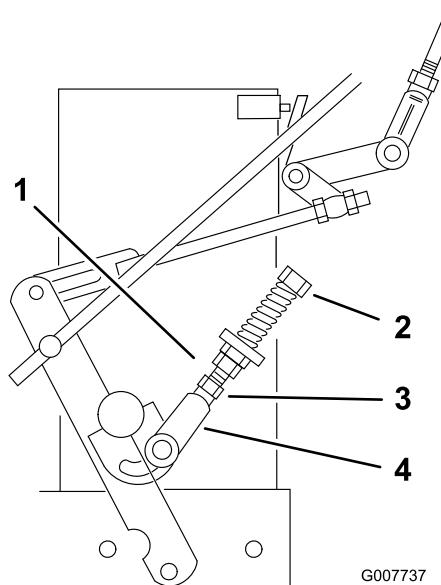

Figure 34
9. If the wheel turns while holding the drive lever in the NEUTRAL, the neutral control linkages need adjustment (Figure 34). If the wheel stops then go to step 12.
10. Loosen the nut against the neutral control linkage yoke (Figure 34).
11. Adjust the neutral control linkage until the respective drive wheel stops while the drive lever is pulled against the neutral spring (NEUTRAL position) (Figure 34).
12. Turn the adjusting bolt approximately 1/4 turn clockwise if the wheel is turning in reverse or turn the bolt approximately 1/4 turn counter-clockwise if the wheel is turning forward (Figure 34).